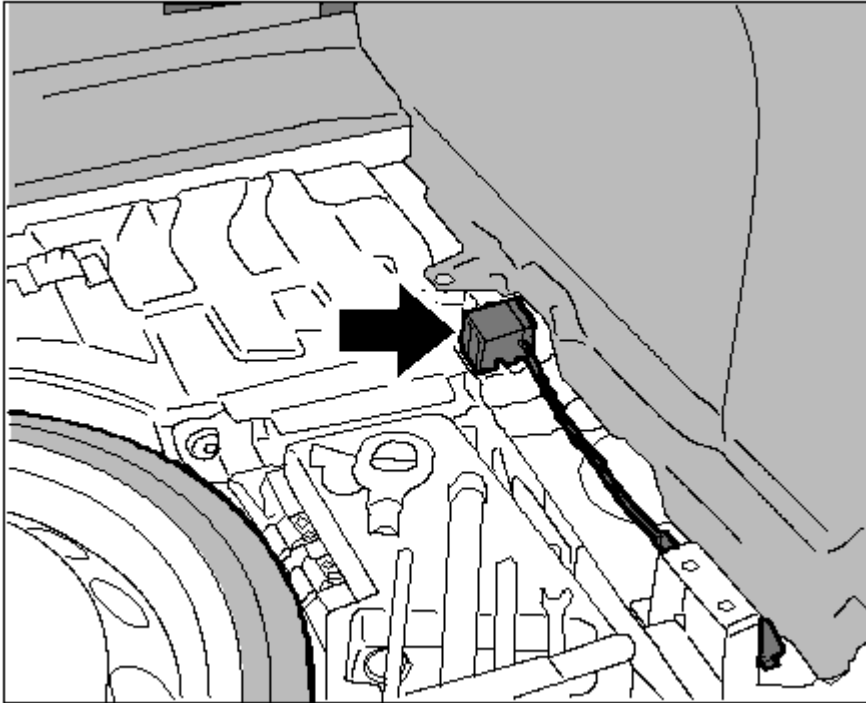

Fig. 108: Sensor for body at rear
1. First push together the sensor connector **-arrow-** firmly (makes removal easier!). Lift connector lock and then remove connector! See **Fig. 108**.